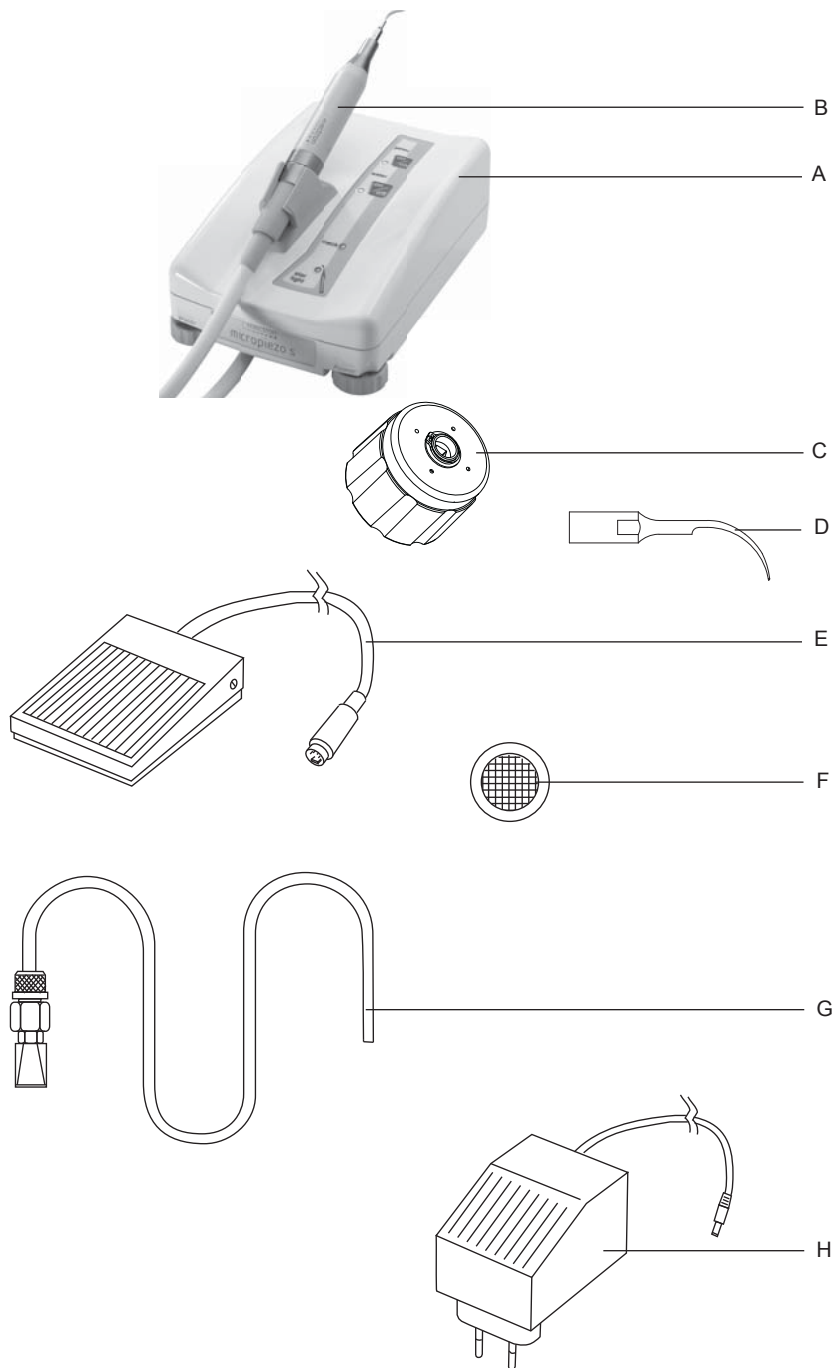

Fig. 3
- 1 Housing of the device (Fig.3 - Ref.A).
- 1 Scaler handpiece (Fig.3 - Ref.B).
- 1 K6 torque wrench (Fig.3 - Ref.C).
- 2 Inserts for scaling (Fig.3 - Ref.D).
- 1 Footswitch with cable and plug (Fig.3 - Ref.E).
- 1 Spare filter for the water circuit (Fig.3 - Ref.F).
- 1 Water supply pipe with quick coupling (Fig.3 - Ref.G).
- 1 Power supply with cable and plug. (Fig.3 - Ref.H).
The footswitch (Fig.3 - Ref.E) for consent.